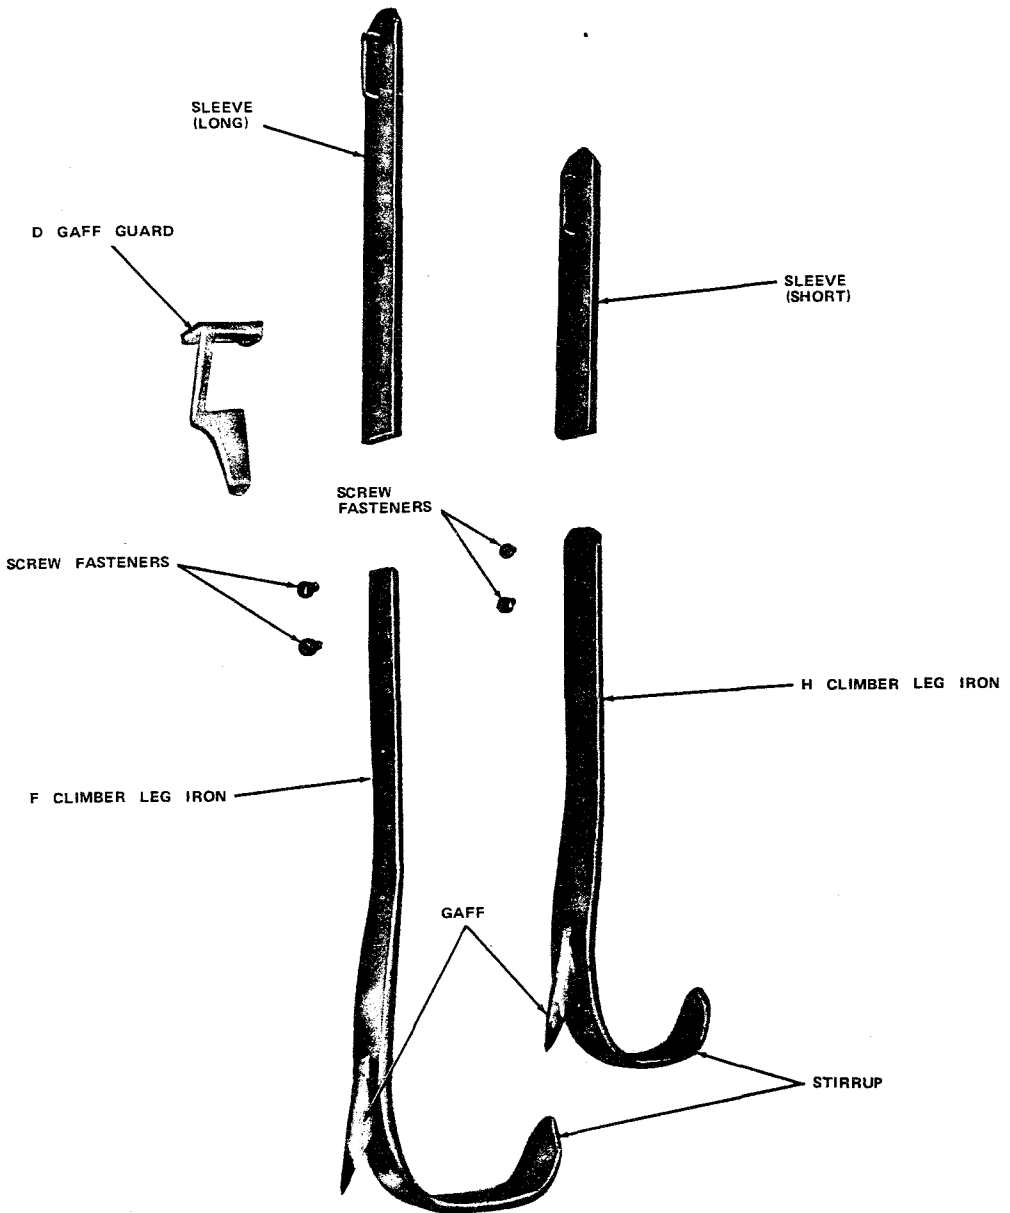

Fig. 3—H Climber
3.06 The H climber is identical to the F climber except the leg iron is 1-1/4 inches shorter in length (Fig. 3). The stirrup on the climber is smaller in width and depth to accommodate smaller size work boots. The H climber uses the same adjustable sleeves, foot straps with split rings, and other standard parts used with the F climbers.◆